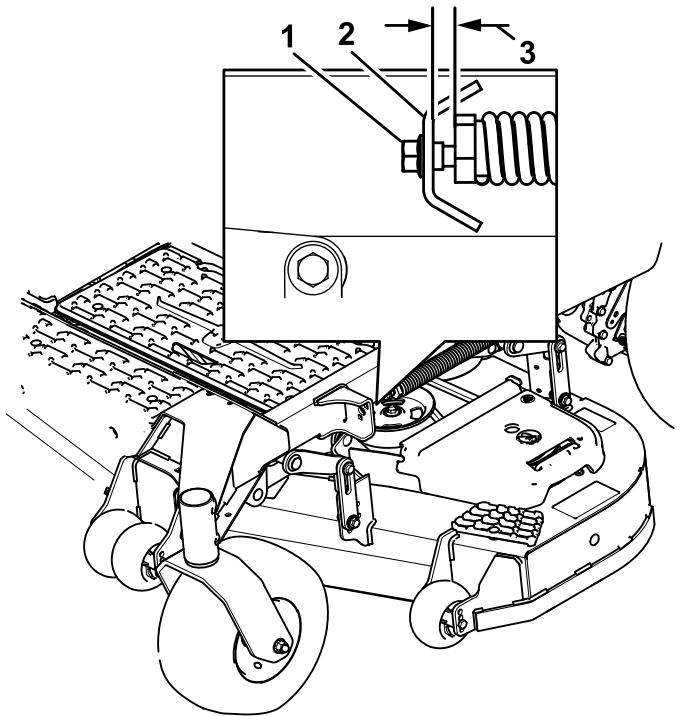

Figure 108
- 10. Slowly loosen the adjusting screw on the lift-assist spring until you can remove the screw (Figure 108).